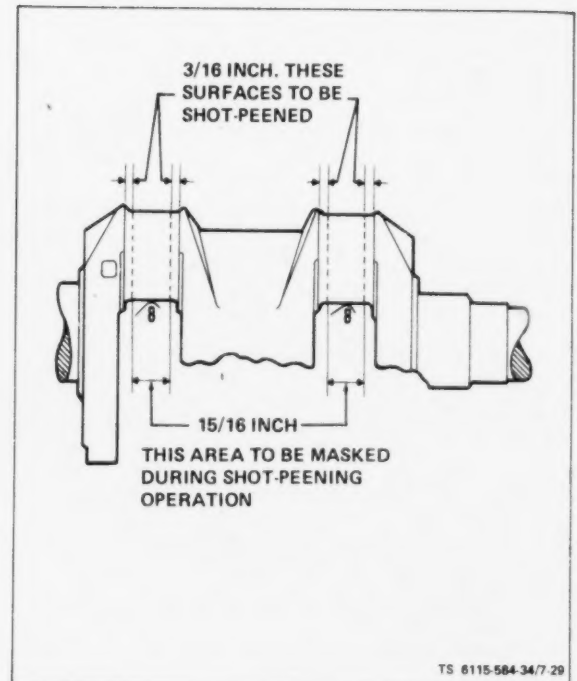

Figure 7-29. Crankshaft Peening
(1) Crankshaft. Clean crankshaft and blow out all oil passages. Check journals for out-of-round, taper, grooving or ridges. Pay particular attention to ridges or grooves on either side of oil hole areas. Unusual conditions here often point to previous neglect of oil changes. If journal dimensions are not within limits or journals are scored, metallize and regrind crankshaft to standards.
(2) Bearings. Replace bearings if clearances are greater than limits (see table 1-2), or if bearings are worn, grooved or broken.
(3) Rear Oil Seal. Inspect seal for wear or damage which might cause it to leak.
c. Rebuild Crankshaft. If crankshaft requires re-grinding, metallize and regrind to standards. Special procedures must be observed when reworking diesel crankshafts. In addition to regrinding, the crankshaft must be shot-peened and super-finished. Failure to shot-peen the crankpin fillets is likely to cause early failure. When the shaft is reground, follow this data and figure 7-29 to shot-peen each crankpin fillet.
- (1) Almen gauge reading, 0.012-A.
- (2) Peen with 0.019 inch diameter cast steel shot.
- (3) Peen for 30-seconds on each crankpin fillet.